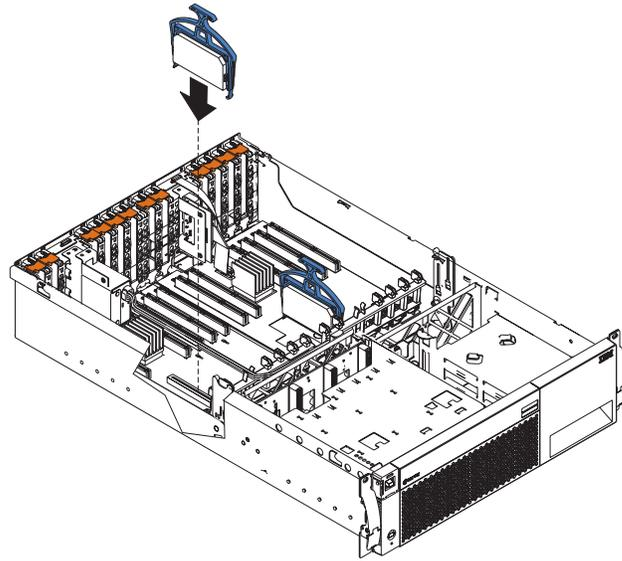

Figure 24. Replacing a VRM
3. Grasp the blue tab and lift the VRM out of its slot (see Figure 24).